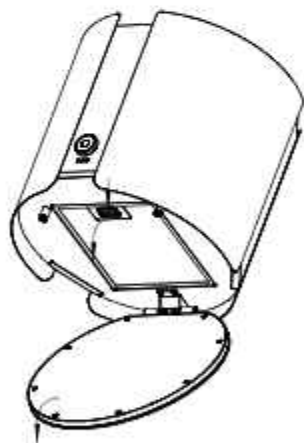

Fig.27
- Open the light panel and remove the filters as indicated Fig.27.